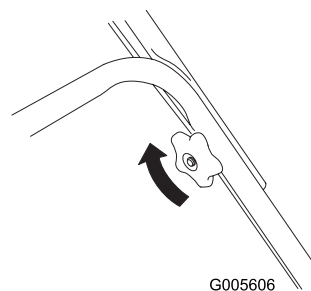

Figure 8
6. Tighten the handle knobs as tight as you can (Figure 8).